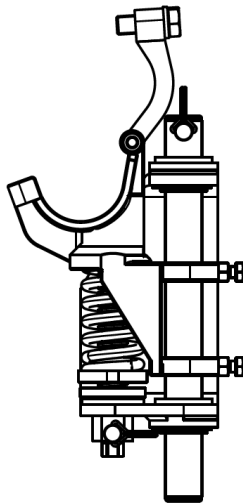
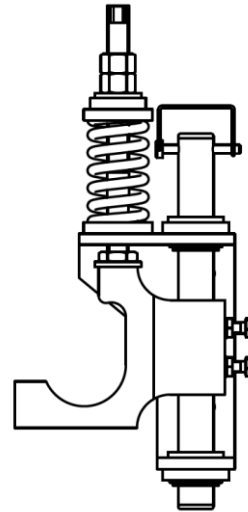

Figure 17 – SST
Figure 18 – SST-I
3. Install the slider/clamp body/tension spring/tension bolt assembly and adjust the clamp arm up (SST – Figure 17) or remove the clamp block arm (SST-I – Figure 18). Ensure the clamp body travels freely up and down the mounting bracket and that the slider protrudes at least 10mm from the slider bushes. Ensure the slider keeper pin is installed to ensure the slider cannot drop out of the bracket assembly and create a “dropped object” hazard.